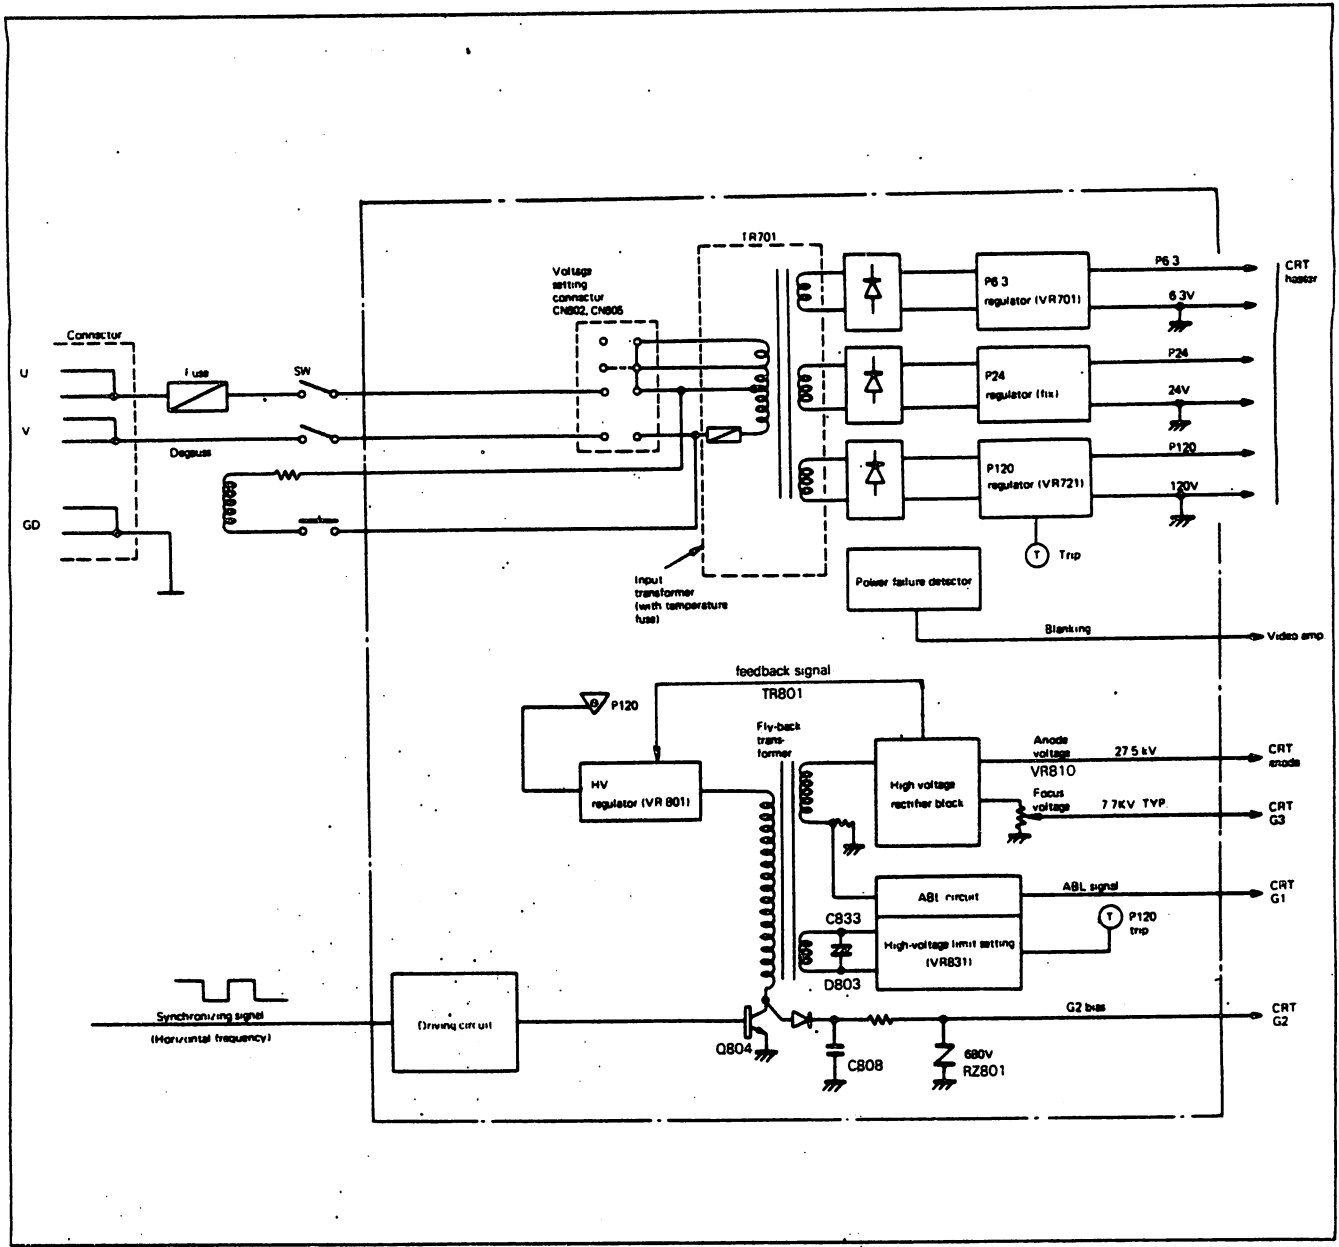

Figure 4-8 Power Supplies
4.2.4 High Voltage Power Supplies (Figure 4-8)